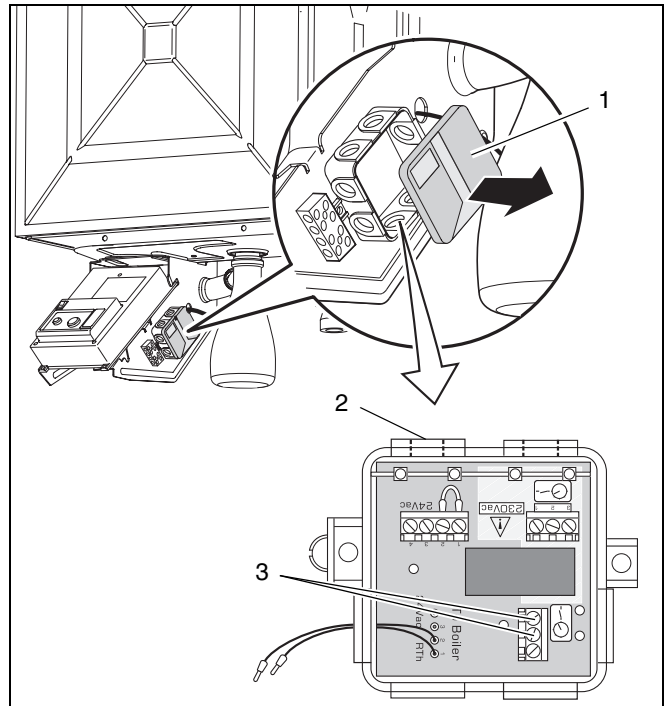

Fig. 16 RTH converter - Volt free connection
- Remove the cover of the connexion box (fig. 16, item 1).
- Lead the control device wire through the cable lead (see fig. 16, item 2).
- Fix the wire to position 1 and 2 of the volt free connection (see fig. 16, item 3).
- Secure the wire with the bracket and the two screws onto the RTH converter (see fig. 16, item 4).